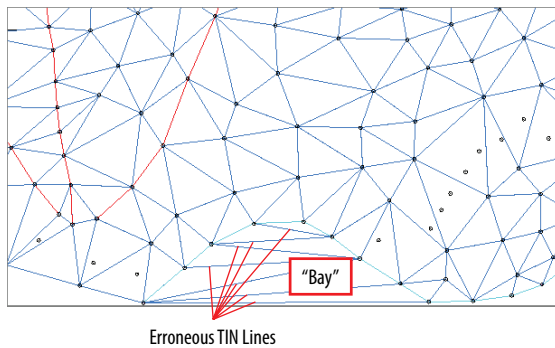

FIGURE 4.11 Erroneous TIN lines created across a bay in the surface data
As discussed earlier, boundaries are a way of defining where the surface is and where it isn't. In the example project, you don't want the surface to exist outside the area that has been surveyed. Why would the surface extend beyond the survey data? If the edge of an area represented by the points happens to bend inward, the lines will extend across the "bay" (see Figure 4.11) and will create misrepresented surface data in that area. One way to avoid or correct this situation is to provide an *outer boundary* that prevents the surface from existing in these areas.
4. In the left viewport, zoom in to the southern edge of the surface, and note the TIN lines that extend across the bend in the stream (shown previously in Figure 4.11).
5. Select one of the TIN lines, and then click Edit Surface > Delete Line on the ribbon. Select the erroneous lines as indicated previously in Figure 4.11. Press Enter after you've made your selection.